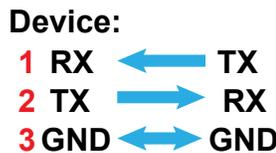

Fig. 8b
2. Connect the RX-TX-GND Header as pictured in Fig. 8b if not already.
3. Once correctly wired to a serial adapter as Fig. 8b and placed in Upload Mode the device will accept and respond to NLED Control commands. See software webpage for command list and usage.